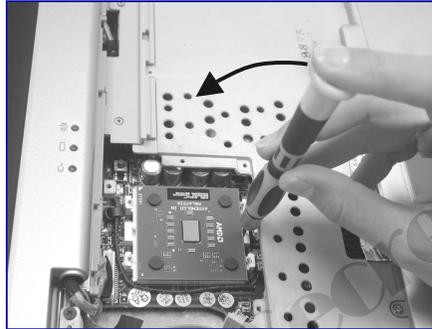

Figure 2-10 Remove the CPU
7. Loosen the screw by a flat screwdriver,upraise the CPU socket to unlock the CPU. (Figure 2-10)